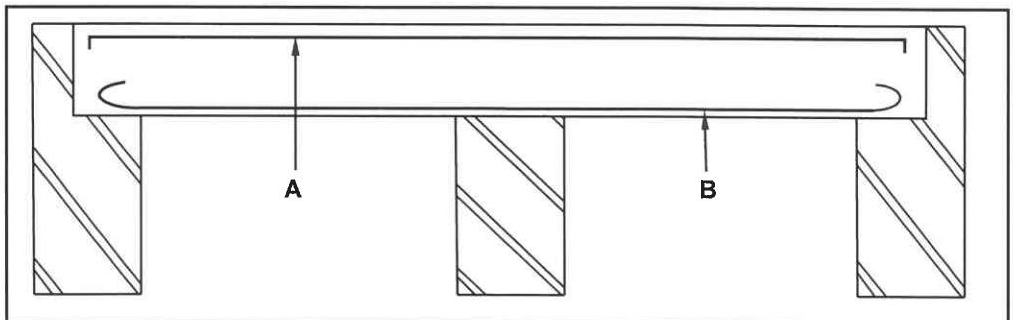

FIGURE 6.4
- 6.4 FIGURE 6.4 below shows an incomplete vertical sectional view through a continuously supported beam. (4)